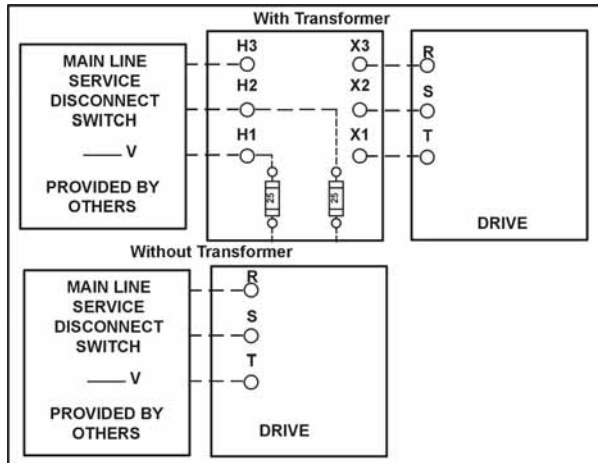

Figure 1-6
- The 3-phase mainline power circuit is common to all drive types. The power may connect directly into a fuse block in the drive side of the controller. Otherwise, the power may connect to the primary side of an Isolation, Step Up or Step Down power transformer [See Figure 1-6 & 1-7]. If a power transformer is used, the secondary side will be wired to the fuse block in the drive side of the controller.